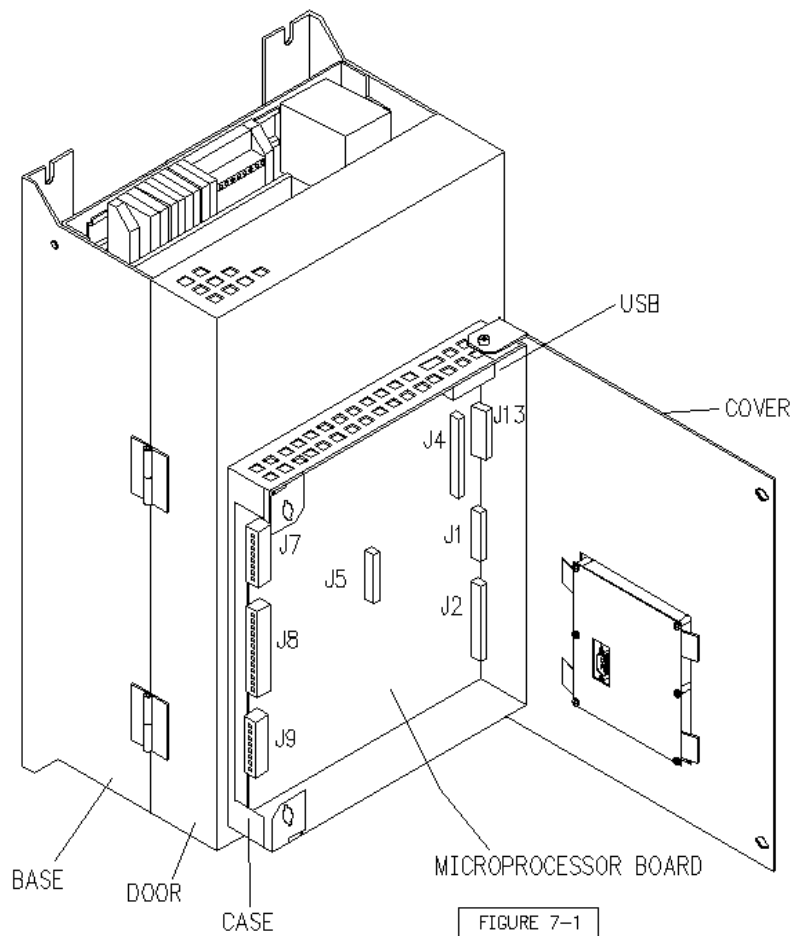

Figure 7-1. Replacing Microprocessor Board in Case
7.3.1 REPLACING MICROPROCESSOR BOARD IN ITS CASE (Refer to Figure 7-1.)
3. Remove system interconnections (J7, J8, J9) from the microprocessor board, shown in Figure 7-1.
3. Refer to Figures 7-1, 7-3, and 7-6. Remove system interconnections from the microprocessor board, shown in Figure 7-1. Close cover.